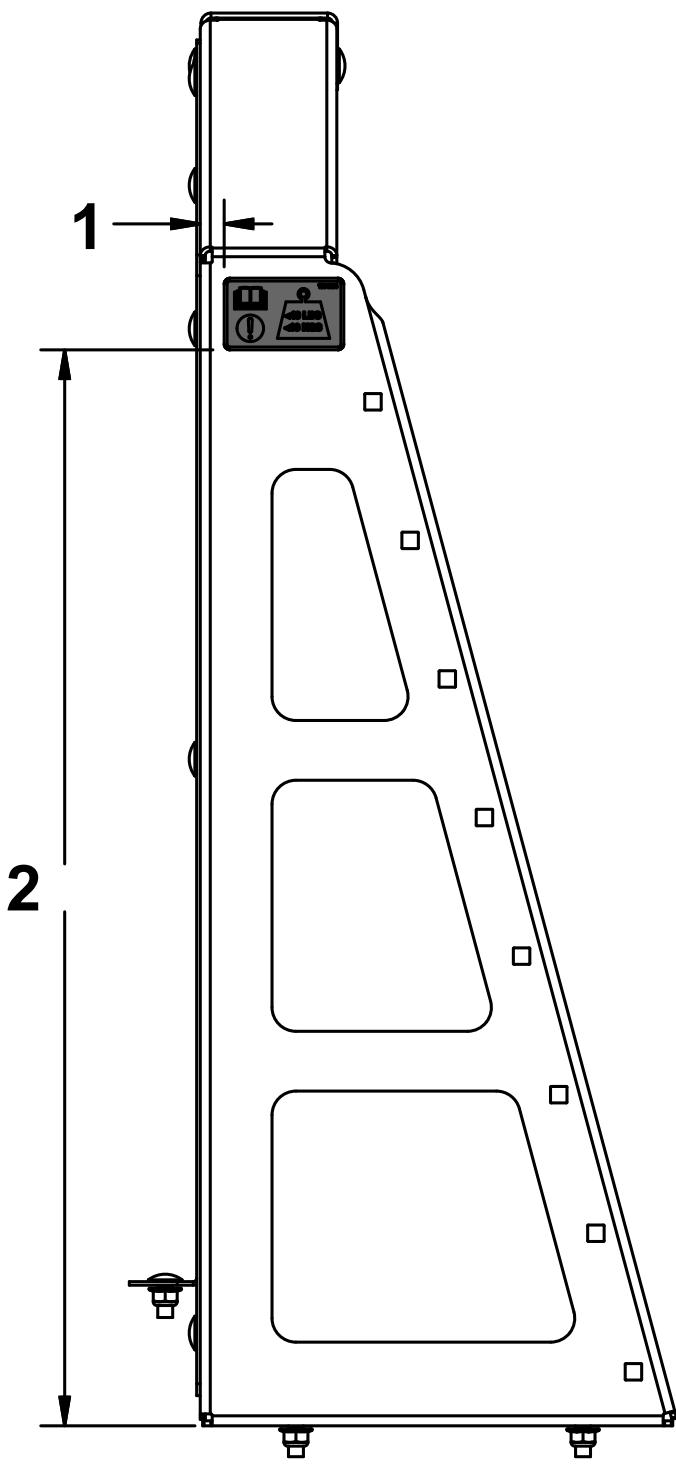

Figure 7
10. Clean the surface and apply a load limit decal to the left side rack and right side rack using the approximate dimensions shown in Figure 7.